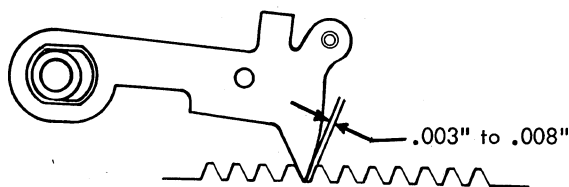
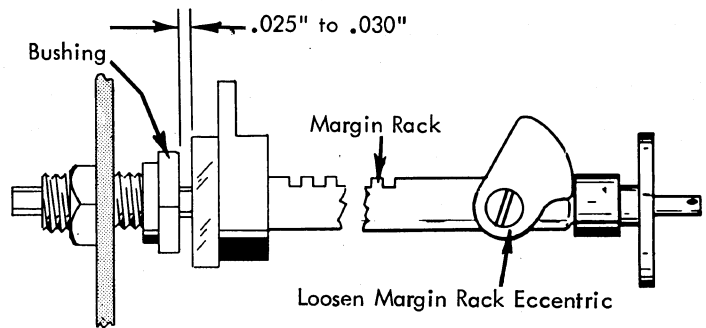

FIGURE 145. Escapement Pawl Check
FIGURE 146. Overbank Adjustment
6. Overbank Adjustment - With the carrier held fully to the left against the margin stop, a clearance of .003" to .008" should exist between the working surfaces of the escapement pawl and the escapement rack tooth (Fig. 145). Adjust the left-hand margin rack bushing to obtain this condition (Fig. 146).
The overbank adjustment insures that the escapement pawl will enter the correct escapement rack tooth when the carrier return clutch is unlatched at the left margin. The adjustment may be observed from the top with the platen and deflector removed and the left margin stop positioned toward the middle of the rack. The overbank may also be adjusted by adjusting the margin rack bushing to clear the nylon washer on the margin rack by .025" to .030" with the carrier resting at the left margin. The right hand margin rack eccentric should be loose when making this adjustment (Fig. 146) so that the left margin stop will be against the stop latch on the carrier. The .025" to .030" compensates for the .022" floating action in the escapement pawl. (The correct adjustment for the margin rack eccentric is covered under the Margin Control section.)